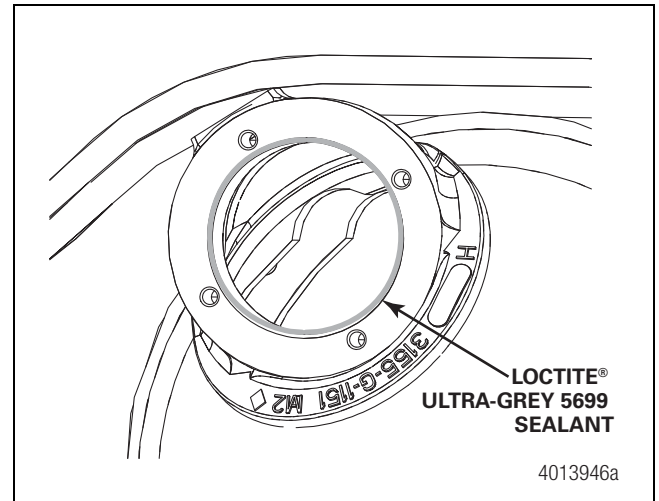

Figure 5.9
1. Apply Loctite® Ultra-Grey 5699, Meritor specification 2297-H-7021, in a continuous 0.08" (2 mm) wide bead a full 360 degrees around the axle housing snorkel mounting face. Figure 5.9.